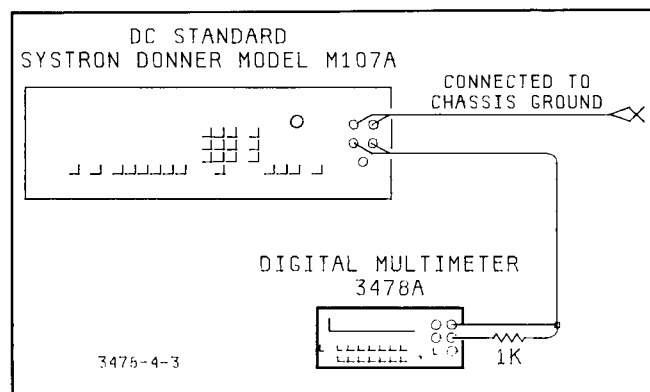

Figure 4-3. DC Common Mode Rejection Test
r. (Step #18.) Select the 3478A's 5 Digit Display mode by pressing the blue Shift button and then the Downrange (5) button.
4. With the DC Volts Standard's output off, connect the standard to the 3478A as shown in Figure 4-3.
j. Connect the AC-DC Calibrator to the 3478A as shown in Figure 4-3.